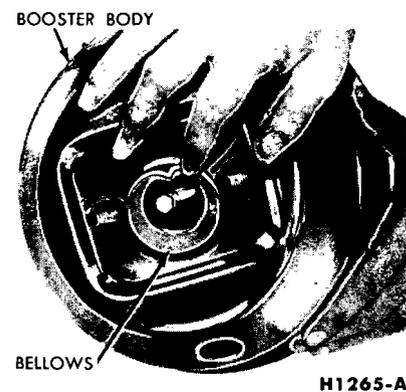

FIG. 43—Bellows to Booster Body Engagement—Midland-Ross
3. Push the bellows assembly into the vacuum chamber (Fig. 43), and separate the bellows, control valve, diaphragm assembly, and end plate from the booster body.